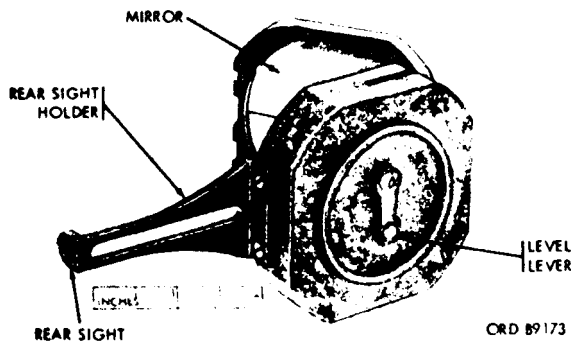

Figure 6. Compass M2-bottom view.
b. *Angle of Sight Mechanism and Related Parts.* Rotation of the level lever (fig. 6) causes the elevation level and elevation scale index to rotate as a unit. The index clamps against the bottom piece to prevent the mechanism from moving unless actuated by the level lever.
- (2) The rear sight (fig. 6) is hinged to a rear sight holder which in turn is hinged to a bracket. The bracket is secured to the body of the compass so as to permit folding the sight against the window inside the cover when the instrument is not in use.
e. Measuring Angle of Site. Hold the opened compass in a vertical plane with the rear sight (fig. 6) toward the body and the angle of site level lever to the right. Open the cover to an angle of approximately 45° to the face of the compass. Fold the rear sight holder out parallel to the face of the compass with the rear sight perpendicular to the holder. Look through the rear sight and raise or lower the instrument until the center line of the window bisects the opening in the rear sight and